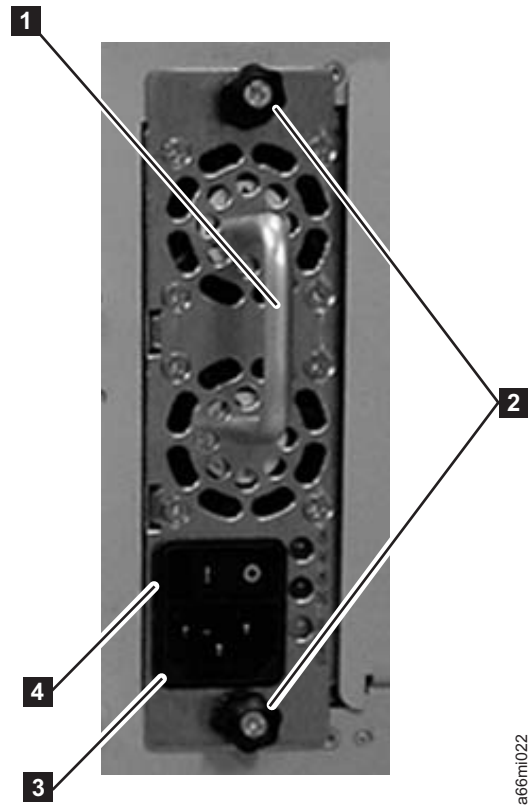

Figure 12-32. Power supply
Attention: First, disconnect the power cord from the power source. Then, disconnect the power cord from the power supply receptacle (**3** in Figure 12-32).
3. Loosen the two thumb screws (**2** in Figure 12-32) by turning them counterclockwise.
4. Grasp the handle (**1** in Figure 12-32) and slowly pull the power supply toward you, while it is supported from underneath.
1. Grasp the power supply handle (**1** in Figure 12-32 on page 12-35) while it is supported from underneath. Then, line up the power supply with the guides in the slot, and carefully push the power supply into the library.
2. Tighten the two thumb screws (**2** in Figure 12-32 on page 12-35) on the power supply by turning them clockwise.
Attention: First, connect the power cord to the power supply component (**3** in Figure 12-32 on page 12-35). Then, connect the power cord to the power source.
4. Toggle the power switch (**4** in Figure 12-32 on page 12-35) on the power supply to the I (ON) position.
2. Toggle the redundant power supply power switch (**4** in Figure 12-32 on page 12-35) to the O (OFF) position.
3. Unplug the power cord from the redundant power supply receptacle (**3** in Figure 12-32 on page 12-35).
4. Loosen the two thumb screws (**2** in Figure 12-32 on page 12-35) by turning them counterclockwise.
5. Grasp the handle (**1** in Figure 12-32 on page 12-35) and pull the power supply toward you. Support the component from underneath with your other hand.
3. Insert the redundant power supply by gripping the handle (**1** in Figure 12-32 on page 12-35), sliding it into the guide slots, and pushing it into the empty slot.
4. Tighten the two thumb screws (**2** in Figure 12-32 on page 12-35) that hold the redundant power supply in place.
5. Connect the power cord to the power supply (**3** in Figure 12-32 on page 12-35) and to its source.
6. Turn ON power to the redundant power supply, with the switch (**4** in Figure 12-32 on page 12-35) on the power supply.